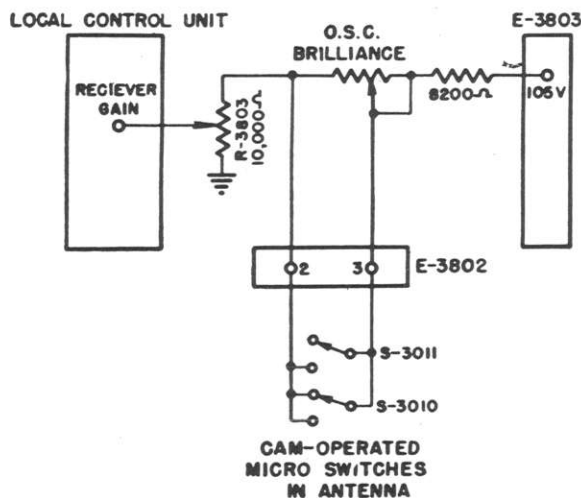

FIGURE 4.
(3) For the mounting of new brushes, see figure 4. The brush holes should be carefully cleaned of grease and chips before placing brushes in the holders.
(4) When storing the joint for future use, replace dust caps to keep from damaging threads and inside insulators. Dust caps will also seal the joint from moisture.
Some confusion seems to exist as to exactly what is the circuit for the ship's heading flasher. This circuit is shown incorrectly in the instruction book and on the cable running diagrams. A corrected diagram is shown in figure 4.